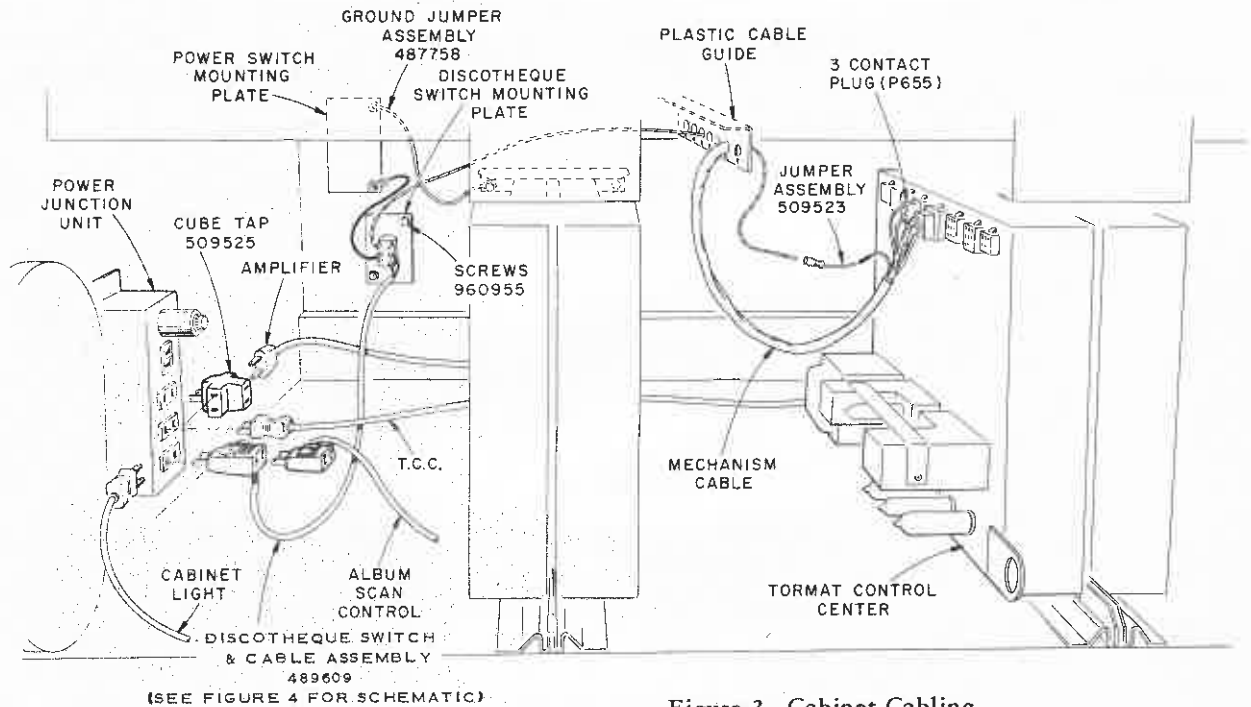

Figure 3. Cabinet Cabling.
3. Mechanism Cable Revision (See Figure 3)
- Remove existing contact and connect new Jumper Assembly (Part No. 509523) as shown in Figure 3. Solder and tape connection.
B. CABINET CABLING (See Figure 3)
- Position Discotheque Switch Mounting Plate so that Discotheque Switch is centered in the "keyhole" slot (cable access hole) on rear of cabinet and so that the line cord connections are as shown in Figures 3 and 4. Mount plate to cabinet using screws provided (Part No. 960955). Remove and discard cable hole cover that is on outside of cabinet.
10. Check to see if there is a green ground wire between Power Switch Mounting Plate and Amplifier Slide Channel. If not, connect Jumper Assembly (Part No. 487758) as shown in Figure 3.